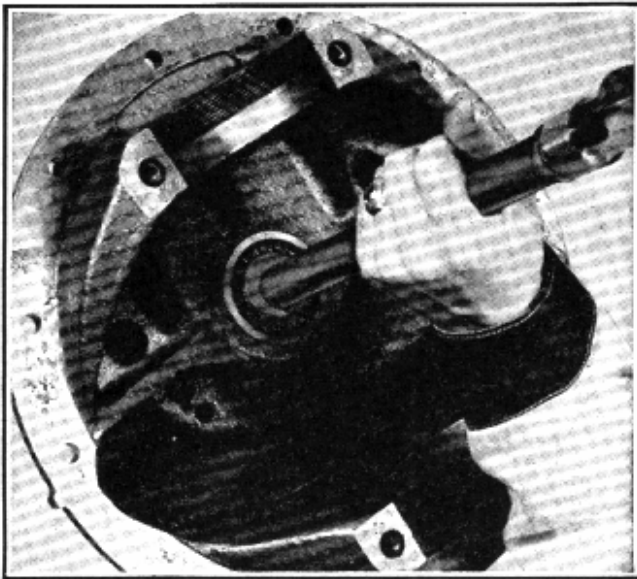

Fig. 32—Driving Out the Pinion Cage Assembly
6. Drive out the pinion shaft assembly from the carrier housing by using a long brass drift and heavy hammer as shown in Fig. 32.